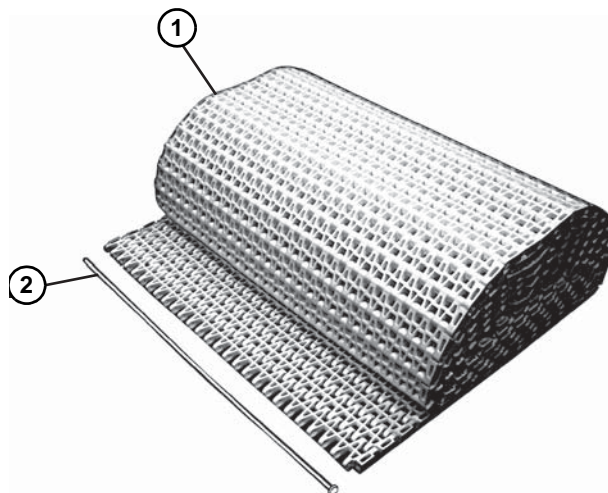

**Figure 11**
2. Attach stands (**Figure 11, item 1**) to the bottom of the conveyor frame (**Figure 11, item 2**). Tighten socket head screws (**Figure 11, item 3**), on each side, to secure in place.